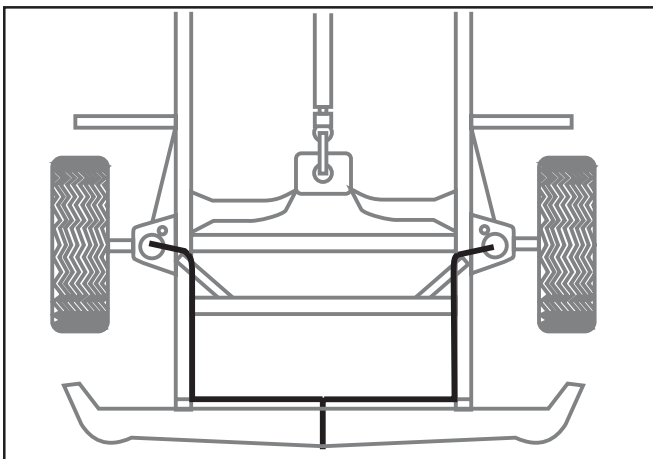
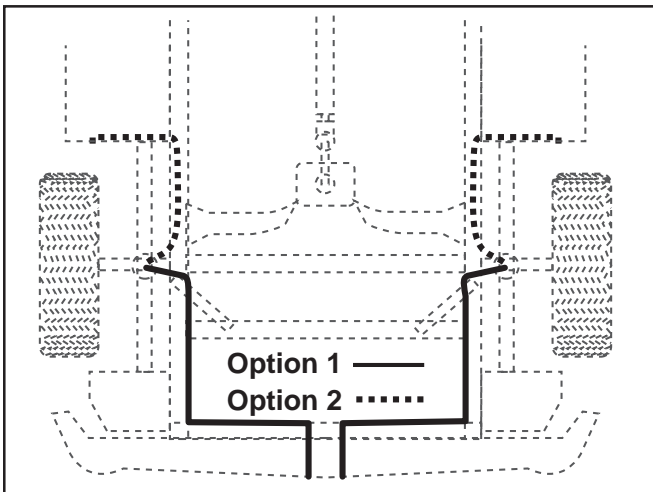

Figure 2
Figure 3
Note: Select either Tee Air Line (Figure 2) or Dual Air Line (Figure 3) option depending on the use of the vehicle. Tee Air Line installation is recommended unless weight in vehicle varies from one side to the other, in which case Dual Air Line installation is recommended to level the vehicle from side to side.
10. Push the remaining air line over the last fitting on tee and route along frame to desired inflation valve location (Figure 2). Attach with plastic straps or wire.
If the vehicle has a rough and harsh ride it may be due to either too much pressure or not enough (fig. 2). Try different pressures to determine the best ride comfort.
Stability translates into safety and should be the priority, meaning the driver may need to sacrifice a perfectly level and comfortable ride. Stability issues include roll control, bounce, dive during braking and sponginess (fig. 3). Tuning out these problems usually requires an increase in pressure.